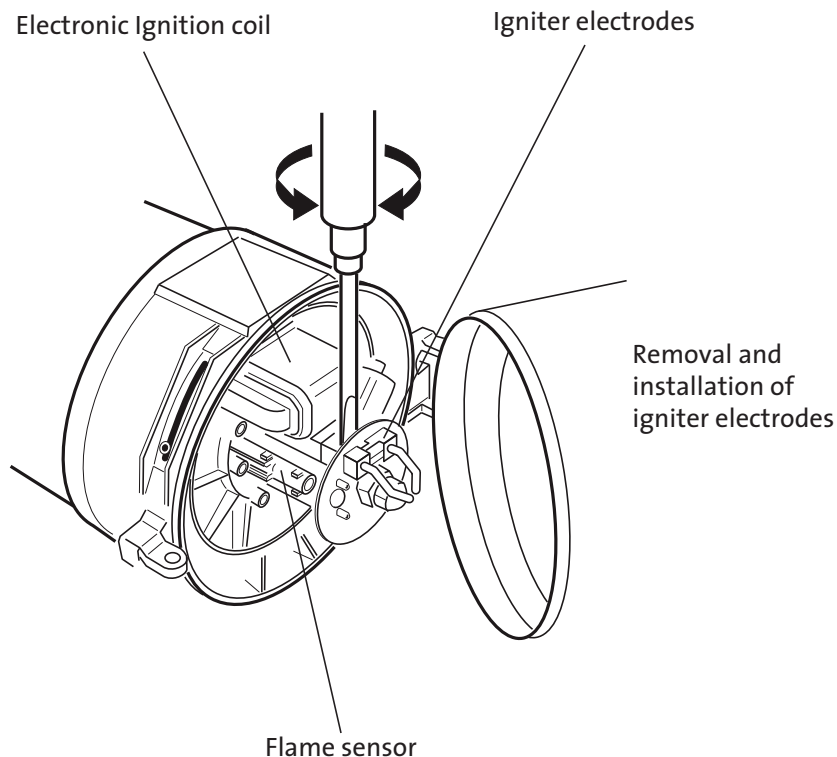

Figure 12: Electronic Ignition Coil and Flame Sensor, Replacement (Sheet 1 of 2)
2. Using screwdriver, lever off igniter electrodes (1, Fig. 12) from electronic ignition coil (2) and remove.
2. Using screw driver lever off igniter electrodes (Fig. 12) from electronic ignition coil and remove.
3. Remove disk (6).
4. Remove screws (2) with lock washers.
5. Withdraw electronic ignition coil (1) and remove.
2. If required, lever off igniter electrodes (Fig. 12) from electronic ignition coil using screw driver and remove.
4. Remove screw (14) and lock washer.
5. Withdraw flame sensor (15) and remove.